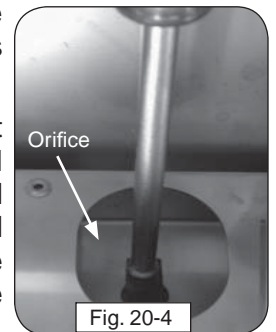

Fig. 20-4
5. Use a  $\frac{3}{8}$ " hex nut driver to remove the exposed orifice (Fig. 20-4) and replace it with the correct orifice for the new gas. (See Table 1 at the beginning of this document for orifice sizes.)